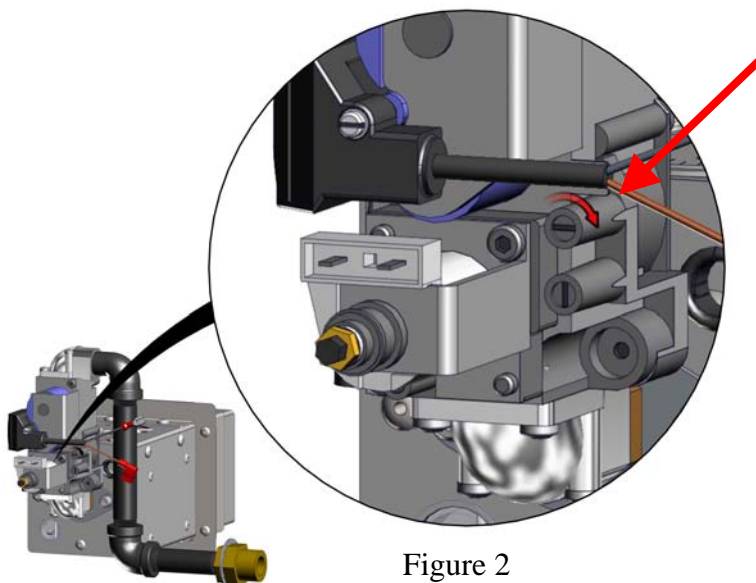

Figure 2
- Tighten screw clockwise until snug (Figure 2)